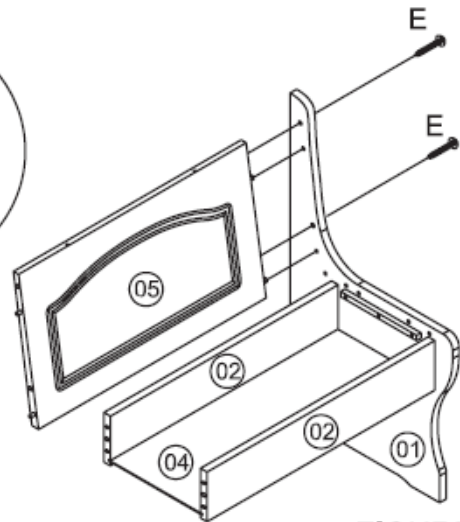
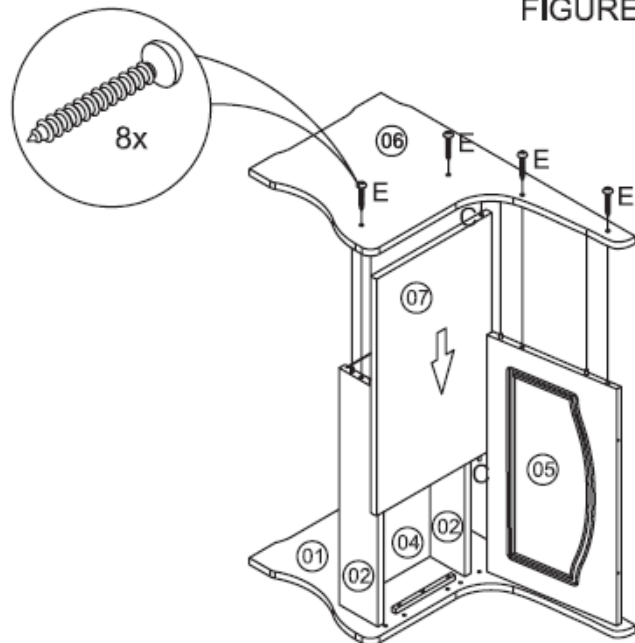

FIGURE 2.3
FIGURE 2.4
- Refer to Figure 2.3 - Attach Single Bench Backrest (5) to a Middle Leg (1) via wood dowels on (5).
- Use Screw (E) to fasten (5) to (1).
- With assistance, place the assembly on its side as shown in Figure 2.4.
- Refer to Figure 2.4 - Fit Single Bench Seat Cover (7) between (5 & 2) and insert Plastic Pin (C) on (7) into designated hole on (1). Attach
- Left Outside Leg (6) to (2, 5, 7 & 4). via wood dowels on (2 & 5). Check that Pin (C) on (7) fits into the designated hole on (6), and (4) sits on wood dowel on (6).
- Use Screw (E) to fasten (6) to (2 & 5).